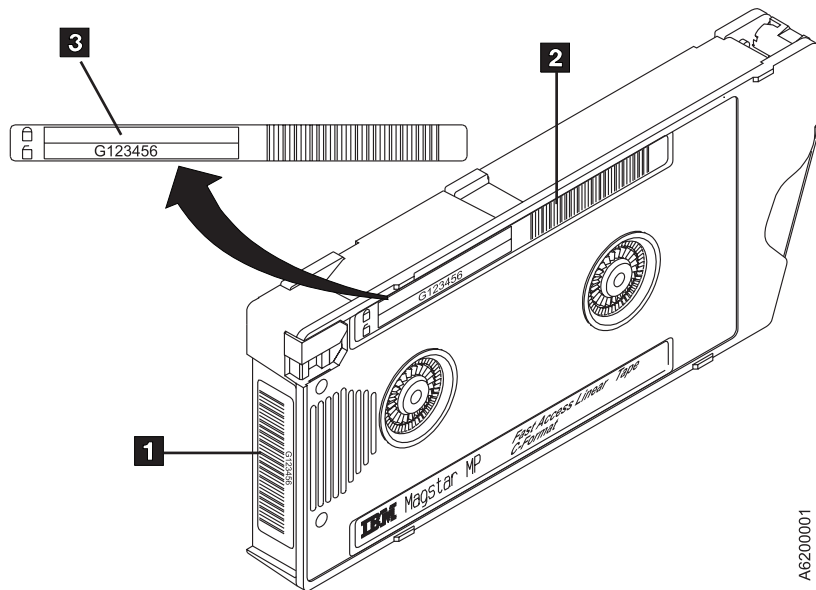

Figure 71. Magstar MP Tape Cartridge Labels
The bar code label that comes attached to each cartridge has a small space in which you may write (see **3** in Figure 71 on page 150). Any information that you write on the label should be written only with markers that do not smear or leave a thick residue.
- The bar code is located on two labels on the Magstar MP cartridge. (See **1** and **2** in Figure 71 on page 150.)
3. Orient the labels on the cartridge, as shown in Figure 71.